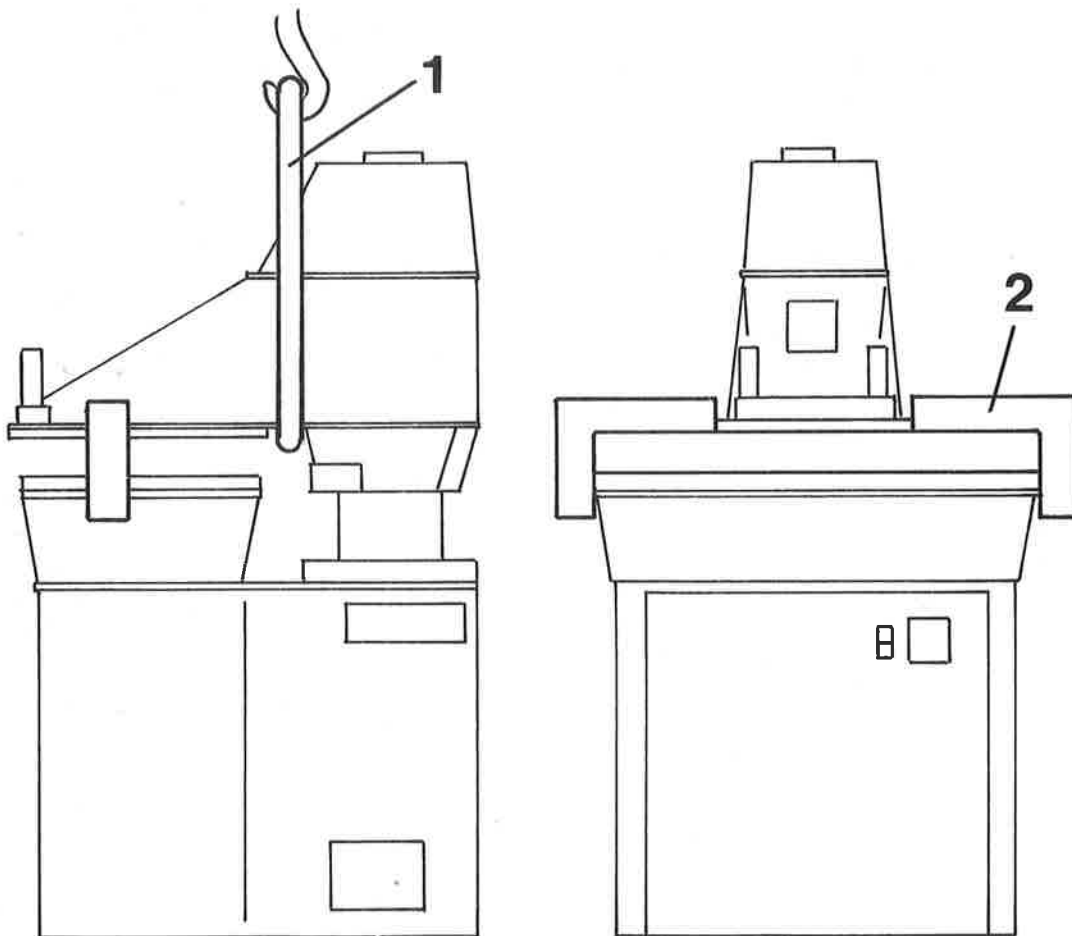

Fig.1a
- Use hemp rope 1 (diameter 25-30 mm) as shown in Fig. 1a (do not use a steel rope to prevent damage to the swing beam).